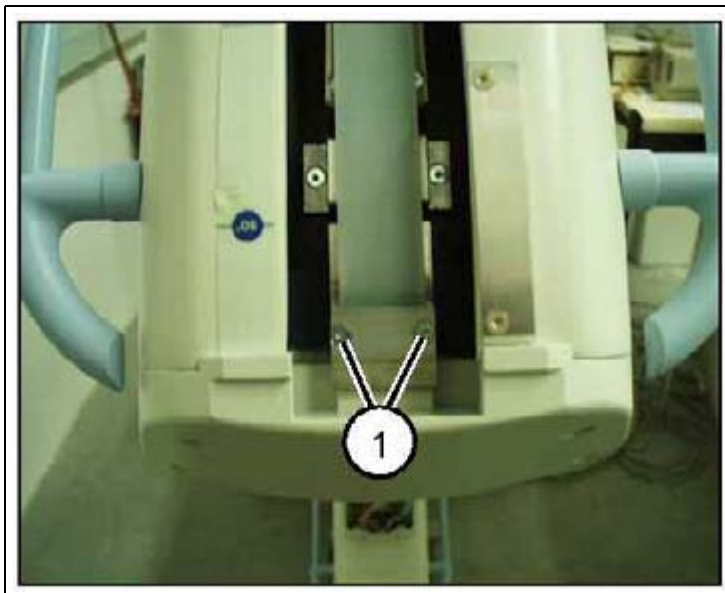

Fig. 25: Brake 8
4. Loosen the drive belt holder (1/Fig. 25 / p. 67).